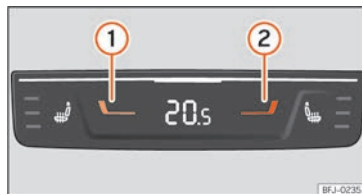

Fig. 114 To the rear of the centre console: Climatronic rear seat temperature controls.
- Press buttons **①** and **②** »» Fig. 114 to adjust the temperature of the rear zone.